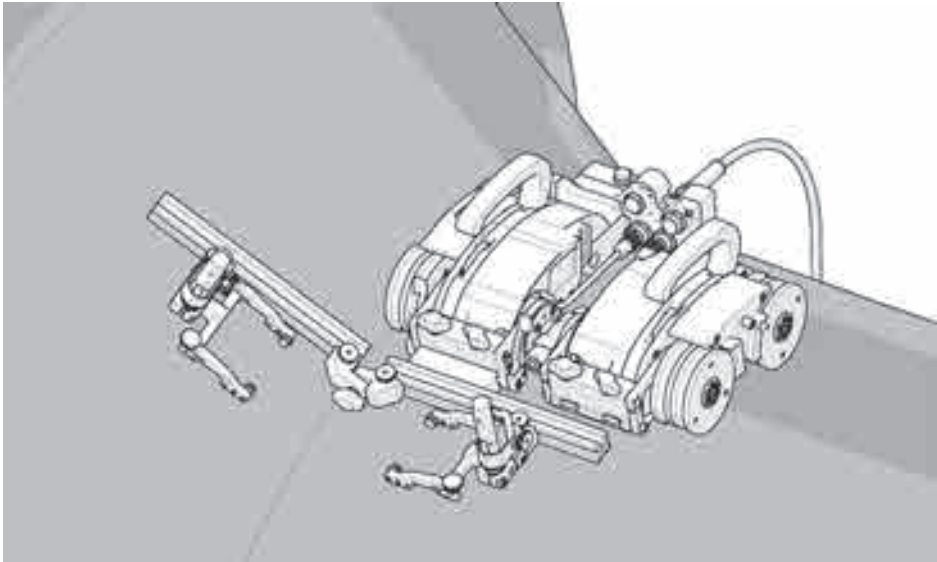

Figure 4-122 Align frame bar with flange scan surface
- Loosen the pivot wing knob and align the frame bar parallel with the scan surface (see Figure 4-122 on page 185).